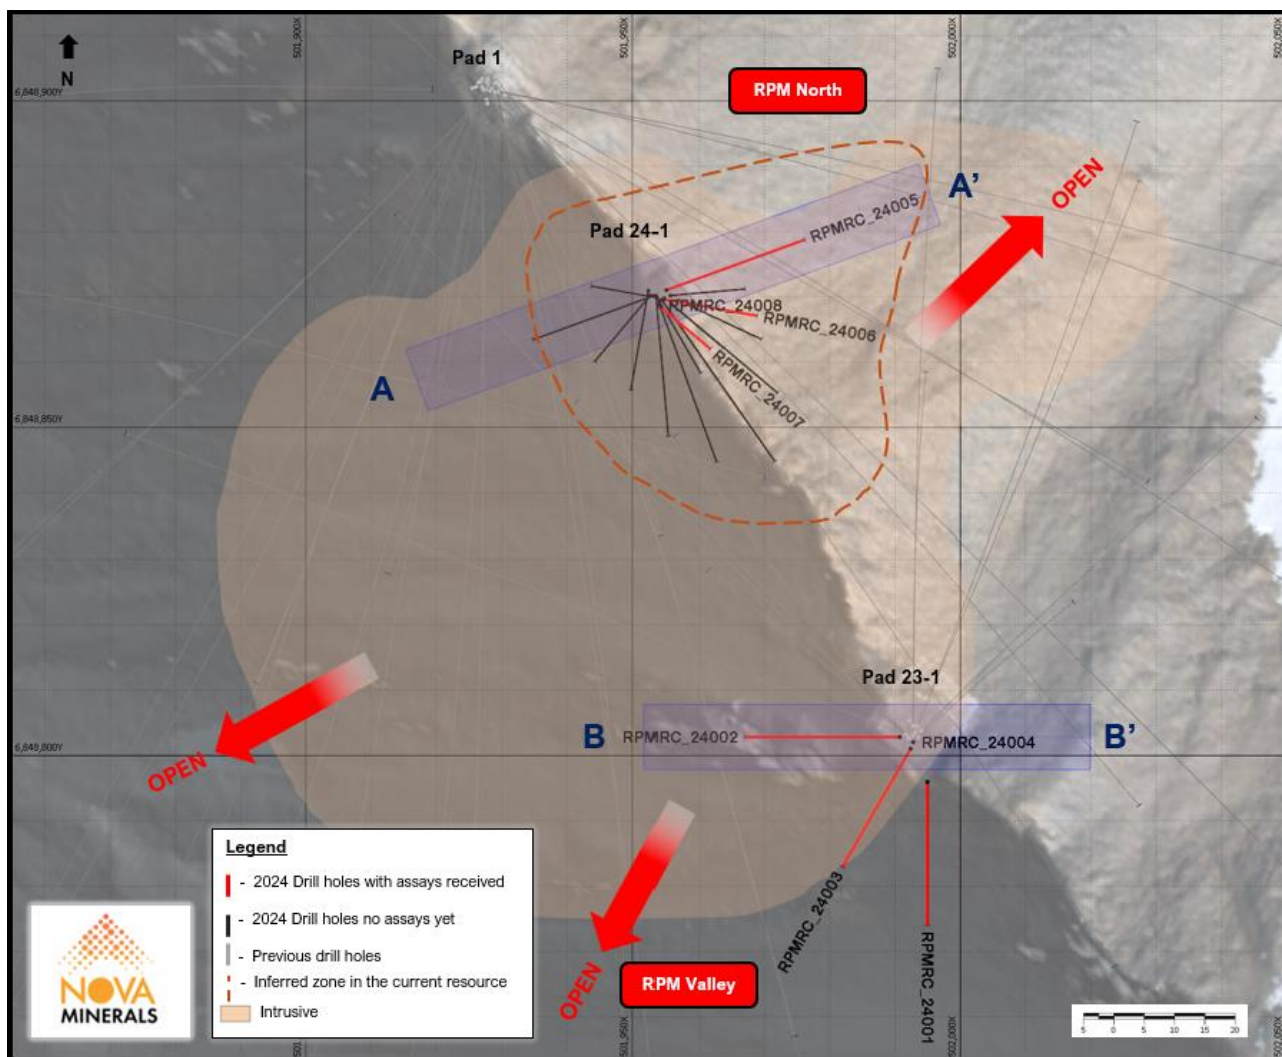

Figure 1. RPM North plan view with all drill holes to date
- High-grade gold intersections targeting near surface mineralization above the current high-grade Measured and Indicated core continue at RPM North with all holes ending in mineralization. Significant results include (Table 1 and Figures 1 and 2):
- Additional significant results received from extensional drilling outside of the current resource model shows near surface mineralization continues towards the South-Southwest with the deposit remaining wide open. These results include (Table 1 and Figures 1 and 3):
1. The first and primary objective was to infill and prove up near surface inferred resources that define the up dip extension of the steep to vertical dipping RPM North high-grade core zone. A new drill pad (Pad 24-1) was located between the two previous drill pads (Pad 1 and Pad 23-1) at RPM North to fill this data gap and prove up this high-grade material (Figures 1 and 2). The initial assay results from holes RPMRC-24005 to RPMRC-24008 indicate this objective was achieved.
2. The secondary objective of the shallow 2024 drill program was to extend drilling to the South and Southwest of the current RPM North resource to begin to test a potential link with the RPM Valley zone situated approximately 150m to the Southwest. Highly prospective mineralized intrusive rocks have been observed in this area in recent geological mapping and confirmed with anomalous surface sample results. The results returned from holes RPMRC-24001 to RPMRC - 24004 indicate the RPM North deposit remains wide open to the South-Southwest and is potentially connected to the RPM Valley zone (Figures 1 and 3). This warrants further follow-up diamond drilling to test the considerable resource upside potential.